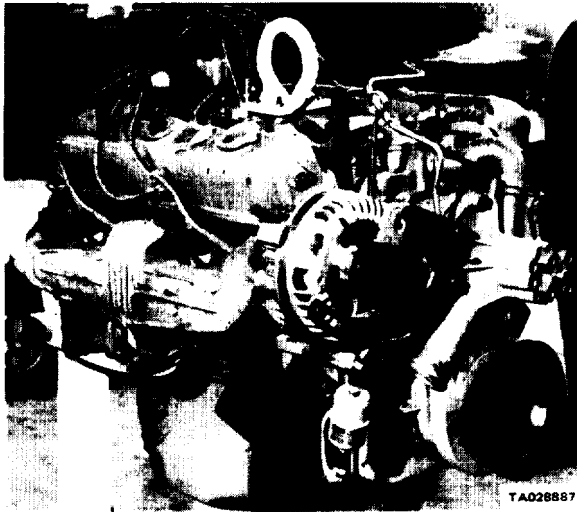

Figure 3-14. Installation of Lifting Eye.
- (4) Remove the fan shroud from the radiator and rest it on the water pump.
- (5) Disconnect the radiator hoses, heater hoses, and transmission lines. Remove the radiator and surge tank.
- (6) Remove the fan shroud from the engine compartment.
- (7) Loosen the alternator adjusting bolt and remove the fan belt.
- (8) Remove the fan, spacer, pulley, and attaching bolts as an assembly.
- (9) Remove the air cleaner and carburetor. Install a lifting eye (tool C-4384, figure 3-14).